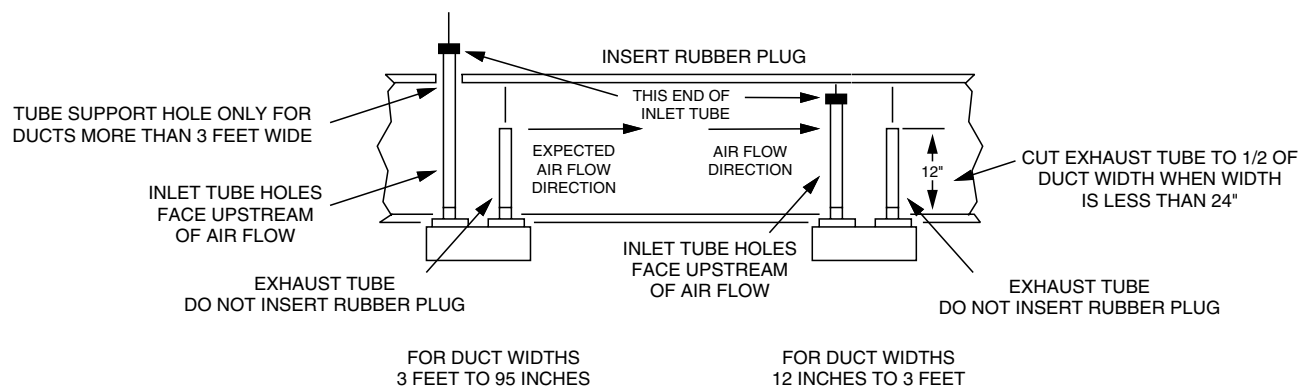

Figure 13. Inlet Tube Orientation (Mounting Position 2 – See Figure 18)
3. If the duct is more than 3 feet (0.9 m) wide, then punch a 1-inch (25.4 mm) hole in the duct wall directly opposite the upstream 1 1/4 inch (31.75 mm) hole. See Figure 13. This hole is used to support the inlet tube.
4. Inlet tubes should be selected and cut to length as specified in Table 3. After trimming the inlet tube opposite the slot, tap rubber plug (supplied) into the trimmed end. See Figure 13.
Inlet Tube Installation (See Figures 13 and 14)
Exhaust Tube Installation (See Figures 13 and 14)